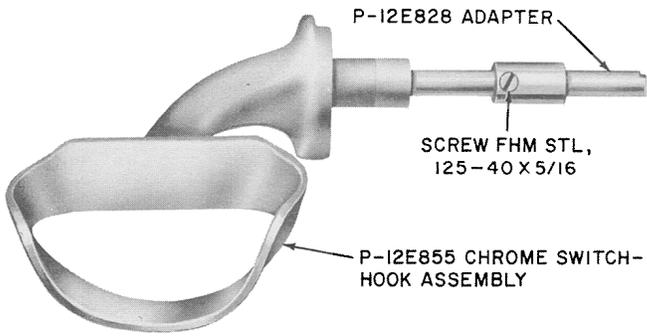

Fig 26 — Two-Piece Switch Hook Assembly
**3.10 Switch Hook Assembly:** New coin collectors have 2-piece, chrome-plated P-12E855 switch hook assemblies (Fig. 26). Coin collectors converted from transmitter-receiver type to handset type use P-10C139 switch hook assemblies which require a P-10C136 auxiliary spring.